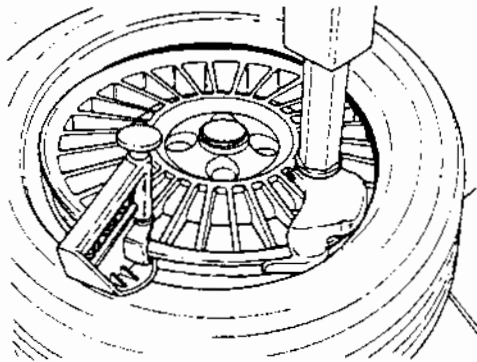

Fig.21
C. Mount the upper bead following the directions in section B. With low profile tires the bead holding clamp (option 66735 Fig.21) can help to prevent the top bead from prematurely seating during the mounting cycle.
- D. Lift the tire with both hands so that the upper bead is sealed to the rim edge (Fig.21).